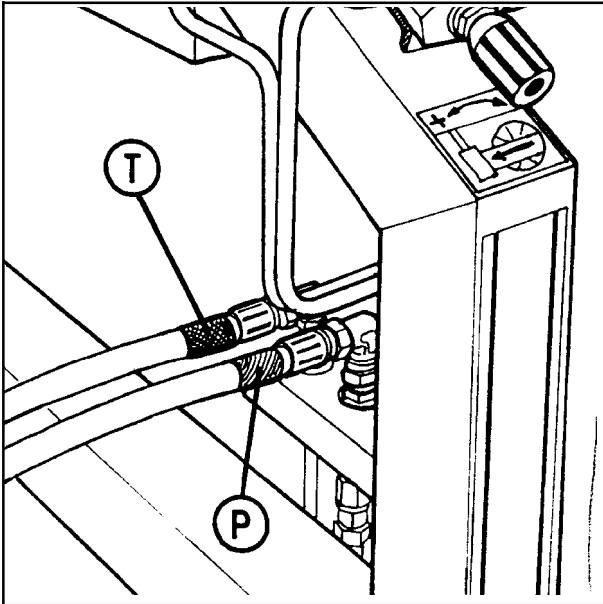

Fig. 4-3
Hose with red cap shall be connected to pressure, (P), and hose with blue cap to the return. (T). (See fig. 4-3).